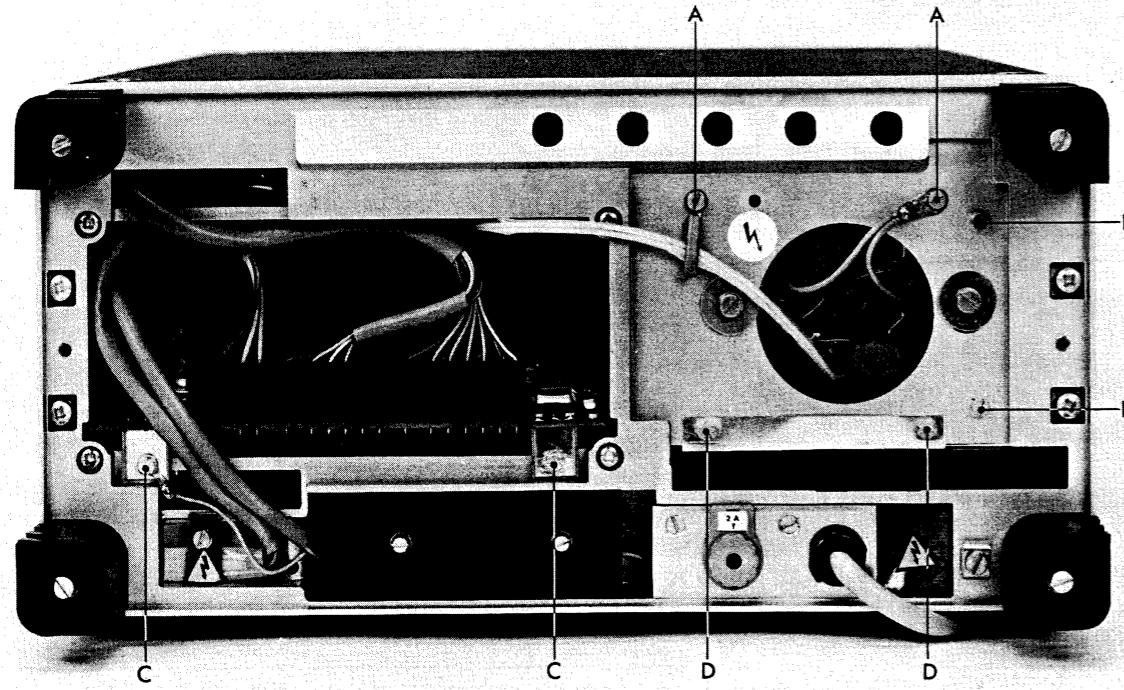

Fig. 3.4. Rear view with dismantling references
- Remove the two screws A that secure the supports to the rear panel (Fig. 3.4.)
- Remove the two screws B which secure the supports to the rear panel (Fig. 3.4.).
### **3.3.7. Removing the circuit board of the power supply (Fig. 3.4.)**